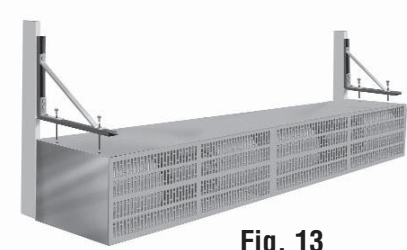

Fig. 13
1. Using a straight edge, align the back of the bracket with the back of the air curtain so they are flush. Using threaded inserts along with four $\frac{3}{8}$ " x 2" hex bolts, attach the brackets to the top of the air curtain . (See Fig. 13)